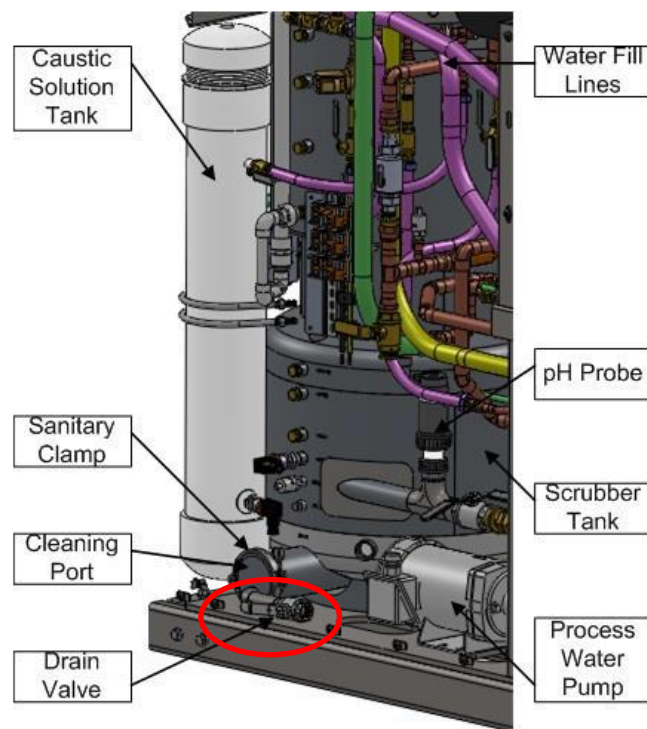
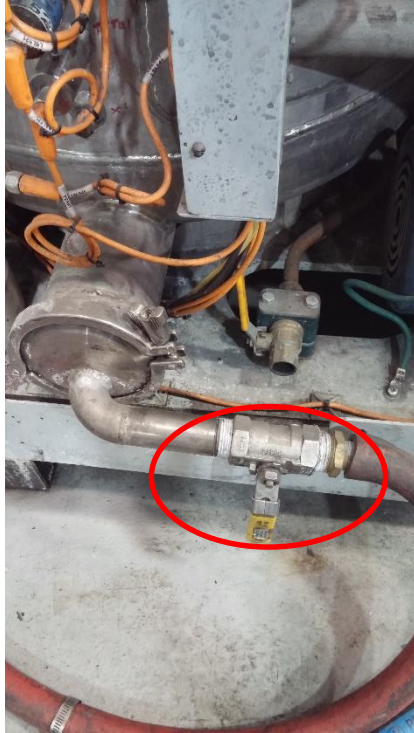

Figure 2: Scrubber tank drain location
Figure 3: Scrubber drain
1. Locate the Drain hand valve at the bottom of the tank as indicated in the photo below (**Figure 2 and Figure 3**).